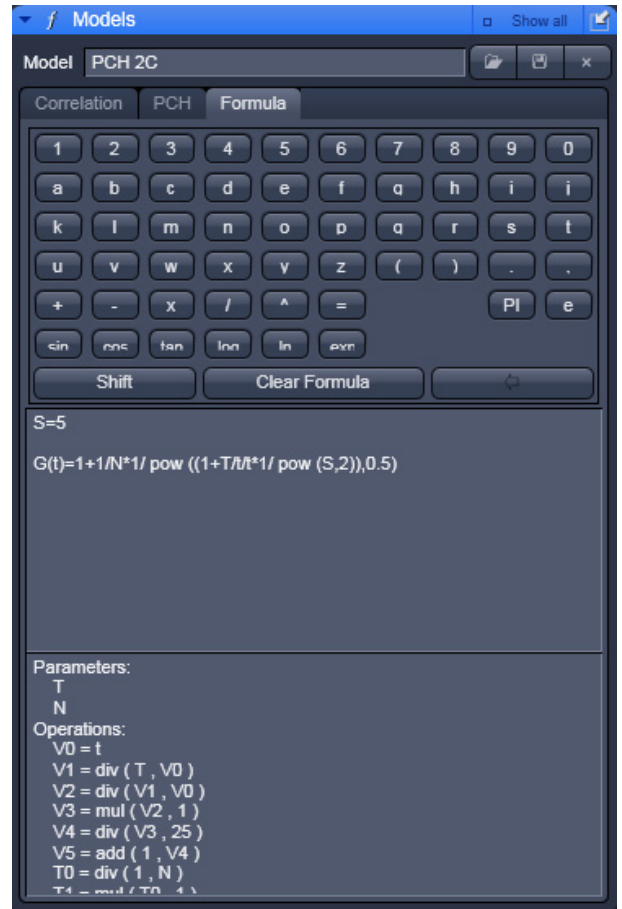

Fig. 9-70 Model panel, Formula tab
- Press the **Formula** register to open the Formula panel (Fig. 9-70). Click any other register to leave the panel.